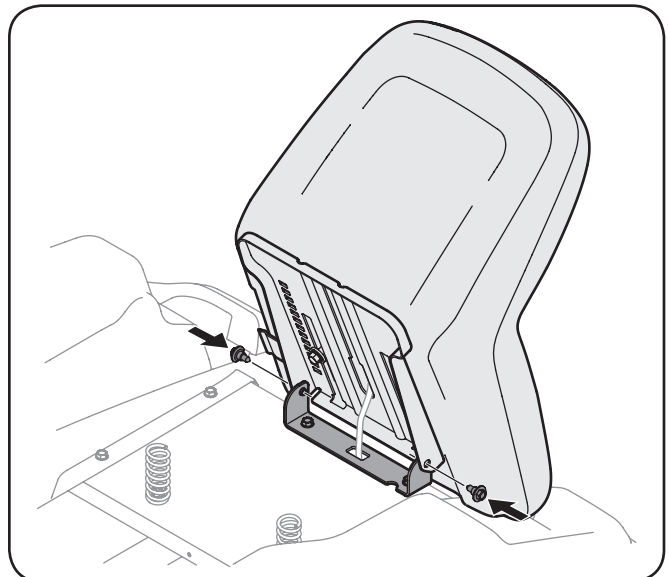

Figure 3-5
3. Rotate the seat into position and secure the seat into place with the previously removed shoulder screws. Be careful not to crimp or damage the wire harness while installing the seat. See Fig. 3-5.